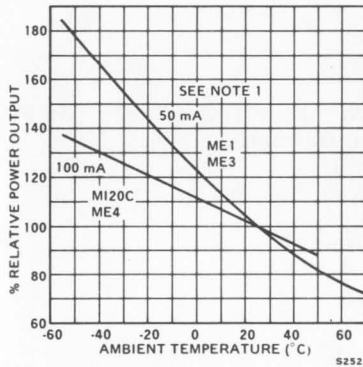

Figure 1 Power Output vs. Temperature Free Standing Diode
1. The curves in figure 1 are normalized to the power output at 25°C to indicate the relative efficiency over the operating temperature range.